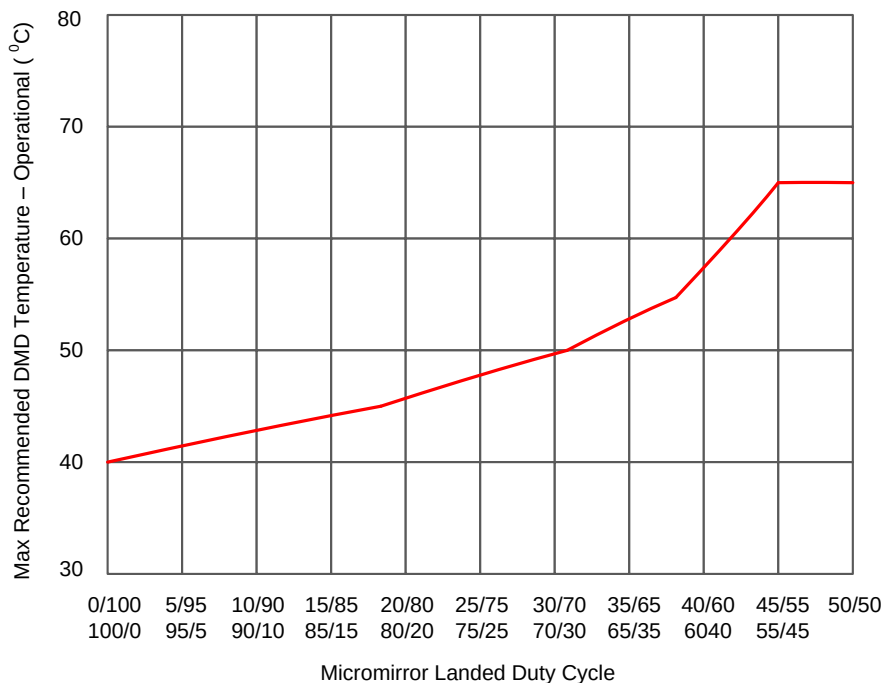

Figure 1. Max Recommended DMD Temperature – Derating Curve
(15) Long-term is defined as the usable life of the device.
(16) Per Figure 1, the maximum operational case temperature should be derated based on the micromirror landed duty cycle that the DMD experiences in the end application. Refer to Micromirror Landed-on/Landed-Off Duty Cycle for a definition of micromirror landed duty cycle.
(17) Array and Window temperatures beyond those specified as long-term are recommended for short-term conditions only (power-up). Short-term is defined as cumulative time over the usable life of the device and is less than 500 hours.